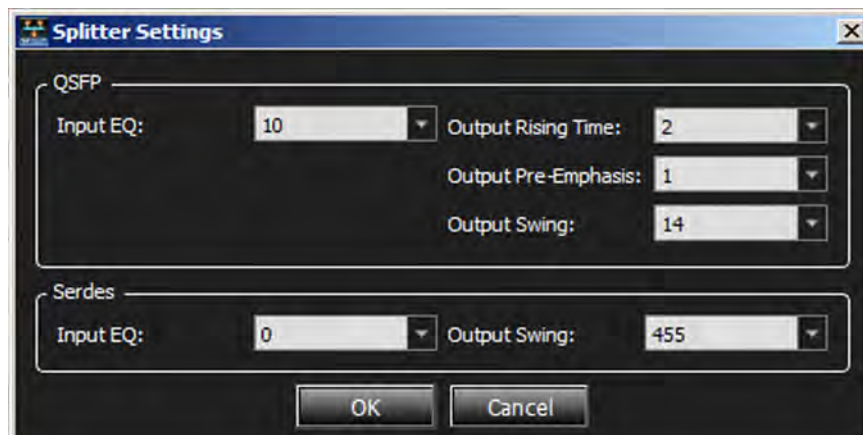

Figure 4.22: Splitter Settings Window for 40 GigE Device
- Splitter: Displays the Splitter Settings window (Figure 4.22).